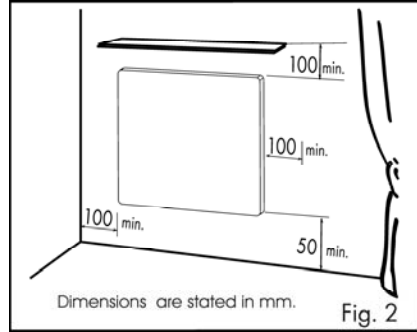

Fig. 2
- Mark the holes according to the table, drill out the holes, insert the dowels and drive the screw in to protrude approx. 5 mm. (Fig. 2)
The distance between the bottom edge of the appliance and the floor mustn't be less than 50 mm; 150 mm is recommended. The clearance distance on the side (e.g. from furniture) must be at least 100 mm, and 100 mm is the minimum in the upward direction (see Fig. 2).